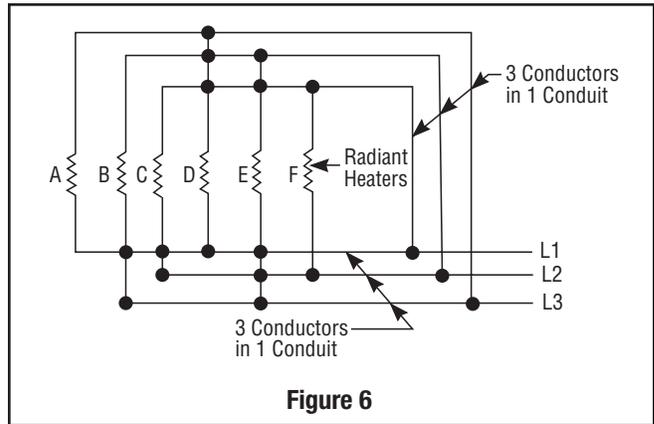

Figure 6
9. **DELTA CONNECTIONS** - When heaters occur in multiples of three, they may be connected to, and balanced across, three-phase lines. The most commonly used connection is the delta connection illustrated in Figure 6.